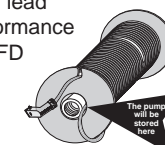
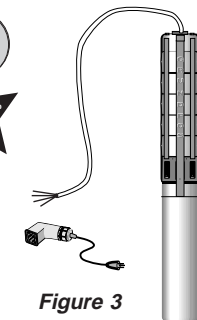

Figure 2
Figure 3
2. Either a Redi-Flo2® pump and motor with lead (Figure 2) or a Redi-Flo4™ Variable Performance pump, motor, lead, lead/plug and RF4 x VFD adapter cord (Figure 3).
Unpack the components of the Redi-Flo Variable Performance System. With Redi-Flo2® pumps, the pump will be packed in the center of the motor lead spool as shown on page 6, Figure 2. Make sure that you have the correct pump for the installation. If you purchased a Redi-Flo4™ pump in component form, see instructions on pages 25-26, and refer to the Redi-Flo4™ Installation guide for assembly instructions.